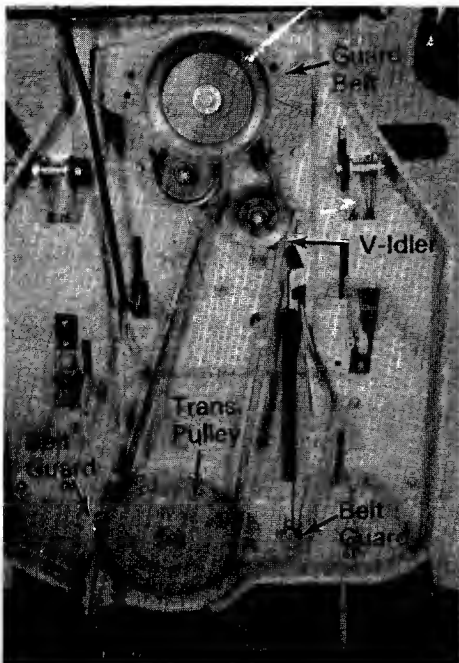

FIGURE 22
6. Remove the six pins holding the deck to the frame. See figure 22.
TRANSMISSION BELT See figure 22.